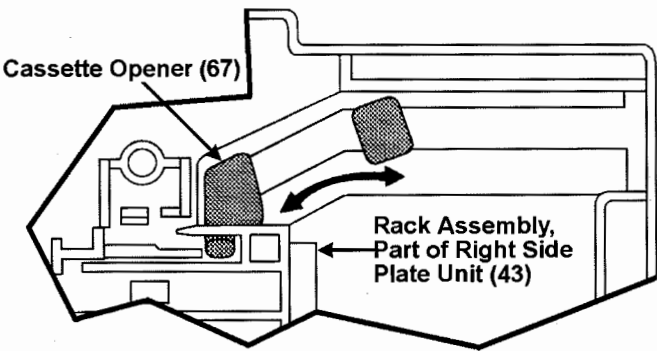

Figure 5
Align the cassette opener (67) with the rack assembly, part of the right side plate unit (43). See figure 5.